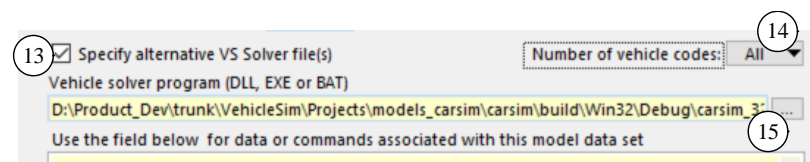

Figure 6. Specify an alternative solver library.
- (13) Checkbox to use alternative VS Solver libraries. Check the box to show a drop-down list (14) and associated fields for specifying vehicle codes and pathnames for the VS Solver libraries (15) (Figure 6).
- ⑭ Drop-down list to set the number of vehicle codes in the dataset that are described with a configuration code name and associated pathname for a program file ⑮. If the solver library is for vehicle models, the first item on the list (**All**) is usually chosen (Figure 6). It is also possible to specify a set of library files paired with codes.
- ⑮ **Vehicle DLL pathname.** When the drop-down control ⑭ is used to specify **All**, a single field is shown for the pathname of a VS Solver library DLL or EXE or BAT file.